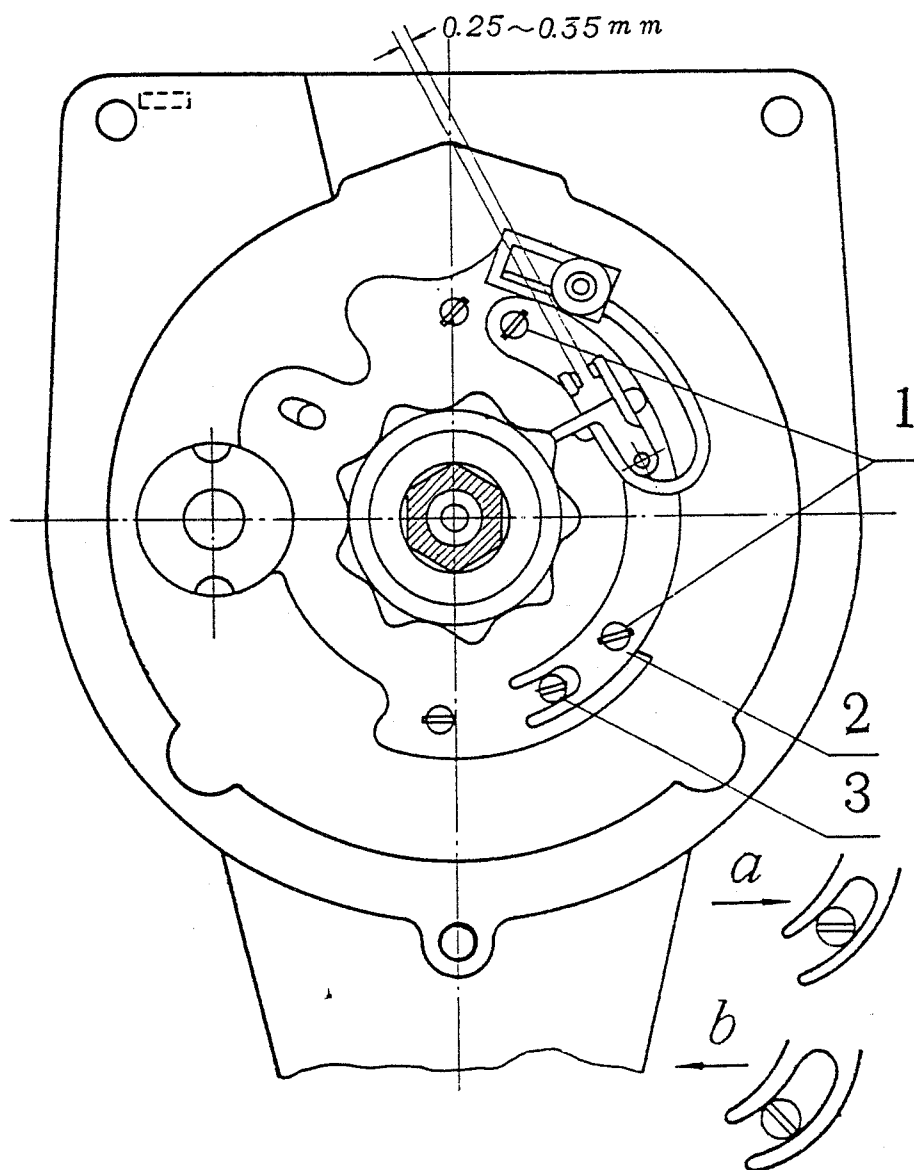

Fig. 4 Clearance Adjustment of the Breaker Contact Points
- (4) Adjustment of the clearance of the breaker contact points of the magneto.
- A. Loosen the two fixing screws "1" for fixing adjusting plate "2" (Fig. 4), turn the eccentric screw "3", when the cam is at the highest position, adjust the clearance of the contact points to 0.25-0.35mm. Fix and wire-lock the fixing screws "1" of the adjusting plate.
- (5) After mounting and adjusting the magneto, it is necessary to run the engine to check the magneto for operation.